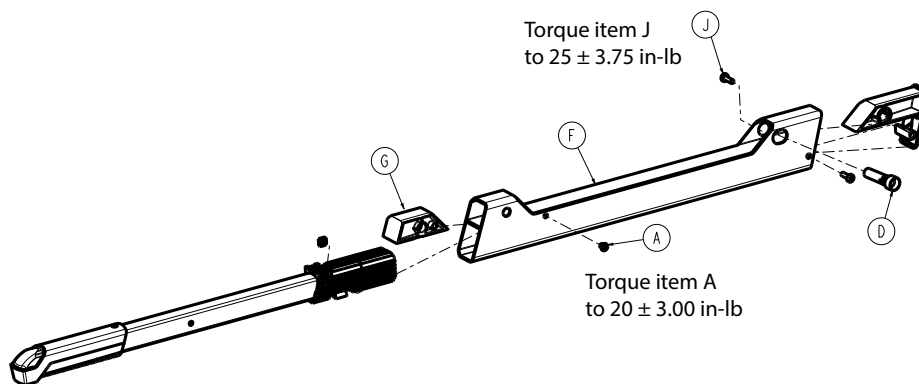

Figure 34 –
7. Using a 1/8" hex driver, remove the button head cap screw (A) that secures the lower handle front sleeve (G) to the lower handle assembly (Figure 34). Save the screw.